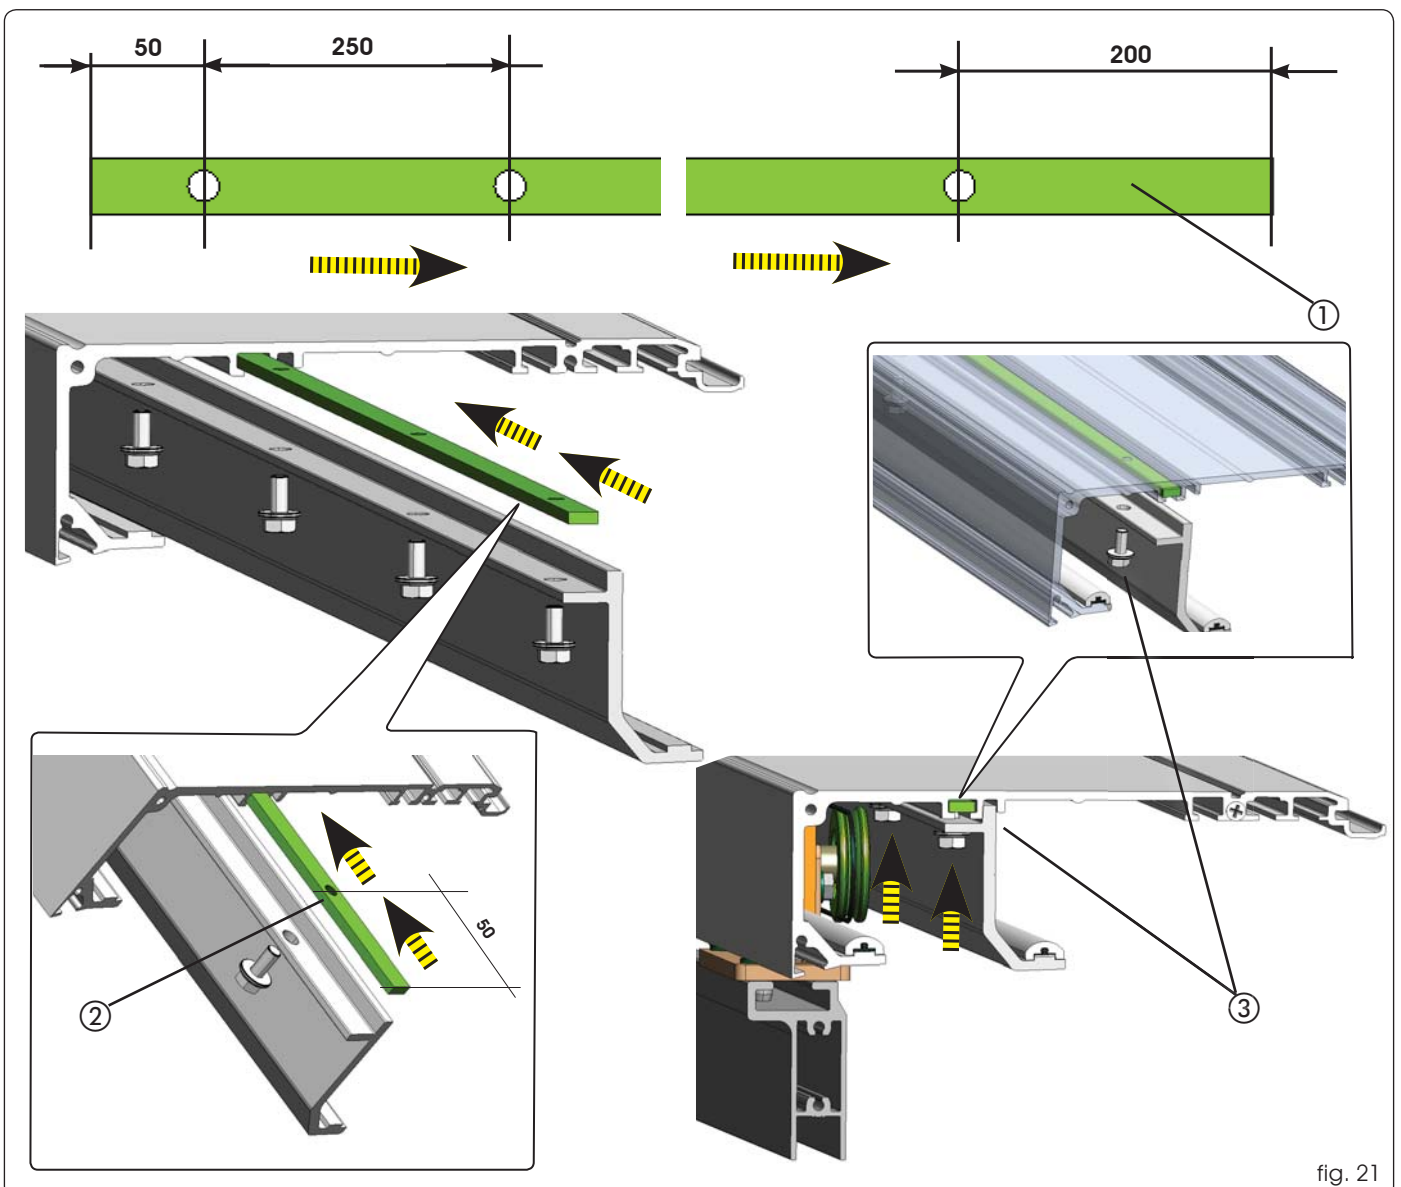

fig. 21
Insert the 3 bars in the profile from the 200 mm side fig.21 Ref. ① The terminal will be 50 mm fig.21 Ref. ② Then position the bars correctly, place the telescopic profile up against the main profile and secure it using the hex head screws with washers fig.21 Ref. ③